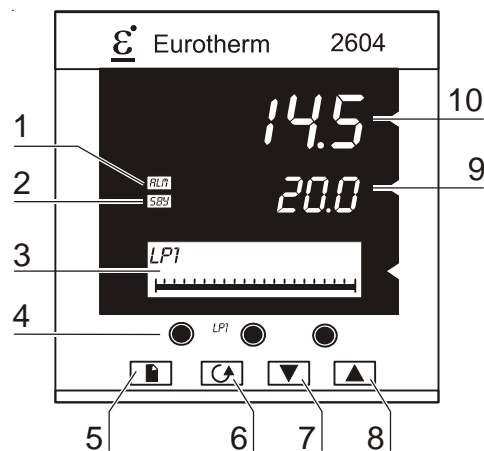

Fig. 30,
**Fig. 30:** The relative humidity is shown on the display [3]. The selection key [6] is used for switching over to humidity display. After one minute, the display automatically switches back to humidity if other parameters or messages were shown previously on the display.
- ▶ Press the  key 2 x to increase the value